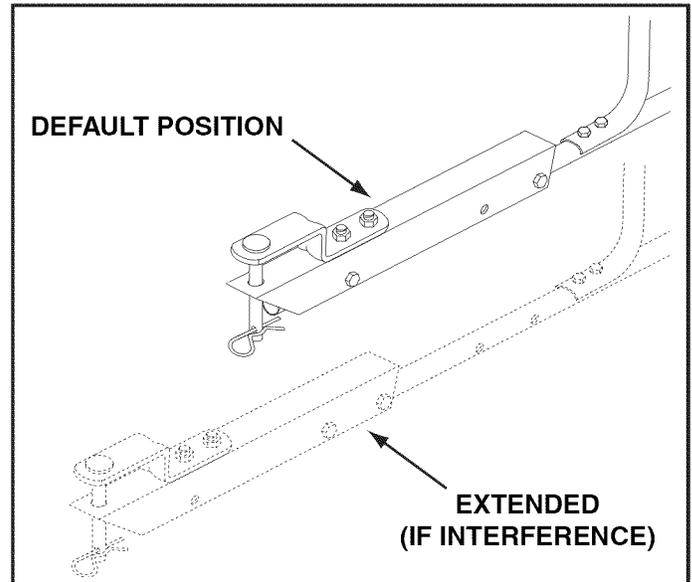

FIGURE 11
STEP 11: (SEE FIGURE 11)
- For most vehicles, you can keep the assembled hitch extension bracket in its default position shown in figure 11. Attach the spreader hitch to your vehicle hitch. Check for interference with the spreader directly behind and out to both sides of the vehicle. Lift the spreader at each position to make sure there is no interference with the spreader's flow control. If there is interference with the rear of the vehicle, assemble the hitch extension bracket as shown at the **bottom** of figure 11. **Tighten** bolts and nuts when finished.